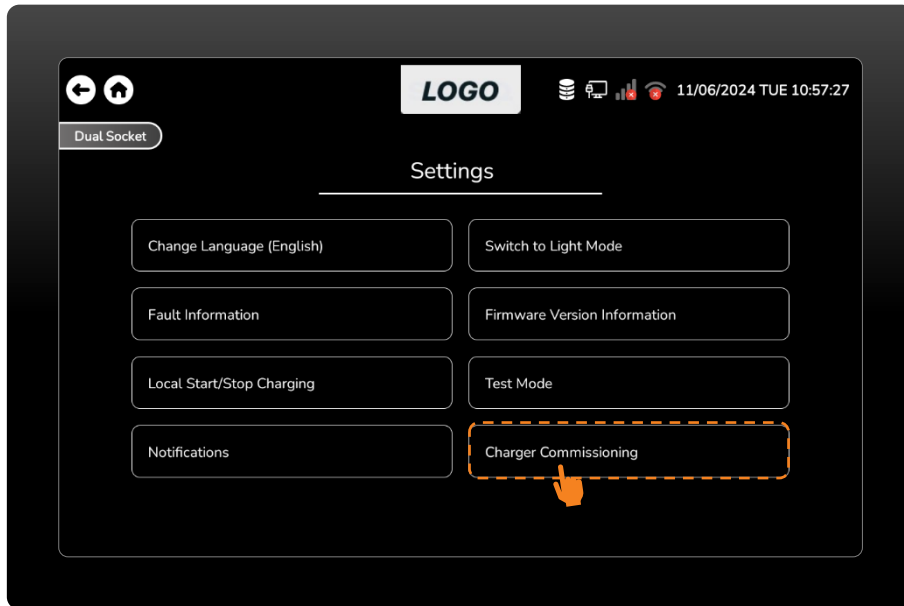

Figure 34 Press the Charger Commissioning.
- Press the charger commissioning button. (Figure 34)